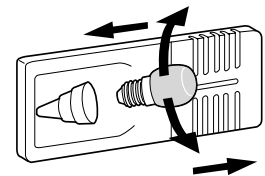

Figure 32
3. Replace the bulb (**Figure 32**).